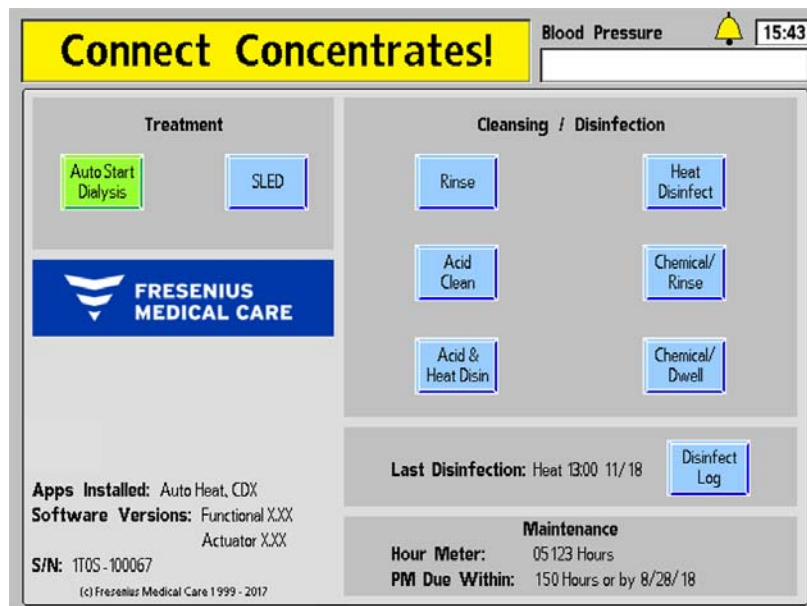

Figure 24 – The Auto Start Program Waiting for Concentrate Connection
- ✓ The red acid concentrate connector is inserted into a central acid supply or a jug containing sufficient acid concentrate for an entire treatment; if the connector is still in its port, the Auto Start Dialysis button will be green and the Status Box message “Connect Concentrates” will be displayed as in Figure 24 above. Once the connector is removed from its port, the machine will wait up to 7 minutes for dialysate conductivity and temperature to stabilize. If they do not, automatic testing will be cancelled and the self tests must be run manually.